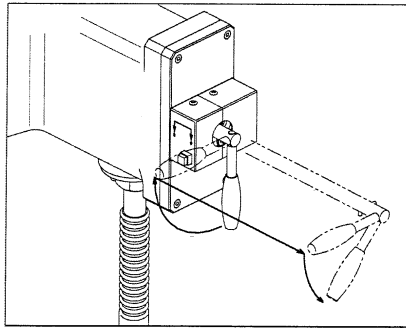

Figure 2. Operation of the Sample Exchange Door
2. Turn the **Isolation Valve Control handle** 90° clockwise or outward toward you (See Figure 2).